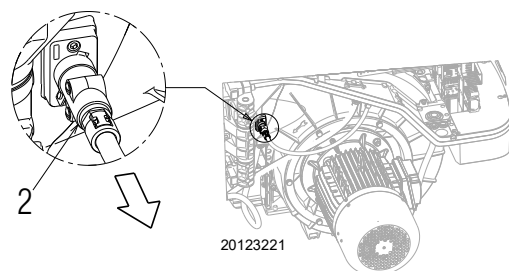

Fig. 41
- extract the sensor 2)(Fig. 41 on page 43);